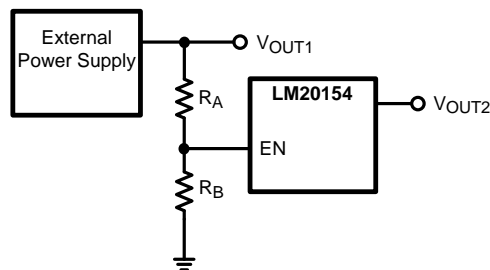

Figure 31. Sequencing LM20154 with Precision Enable
The precision enable (EN) and power good (PGOOD) pins of the LM20154 can be used to address many sequencing requirements. The turn-on of the LM20154 can be controlled with the precision enable pin by using two external resistors as shown in Figure 31